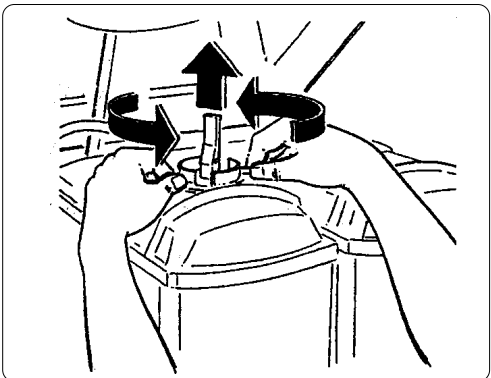

Fig. 16
- Remove the cap (I) by turning it anticlockwise and pulling upwards (fig.16).